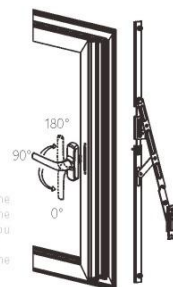

图4
2. 间隙通风状态: 将执手的手柄转到90°位置时打开为间隙通风开启状态; 打开后再将手柄转到180°位置时为间隙通风锁定状态; 此状态下窗扇将无法关闭, 若要关闭, 必须将执手转回90°才能关闭; 图4。
2. Clearance ventilation state: When the handle is turned to the 90° position, then opening the window, its clearance ventilation state is opened; if turning the handle to 180° position, it is the clearance ventilation locking state; Under this situation, the window sash can not be closed. If you want to close the sash, must turn the handle to the 90° position, which is shown in Fig. 4.
二、操作使用(图4):
Operational use(Fig.4)
- 间隙通风状态: 将执手的手柄转到90°位置时打开为间隙通风开启状态; 打开后再将手柄转到180°位置时为间隙通风锁定状态; 此状态下窗扇将无法关闭, 若要关闭, 必须将执手转回90°才能关闭。图4。
- 注意事项: ①适用窗扇宽度不低于400mm; ②适用窗扇高度800mm-1200mm, 窗扇宽、高比例适宜小于1:1.5; ③框、扇间隙控制在11.5 范围内。
2. Clearance ventilation state: When the handle is turned to the 90° position, then opening the window, its clearance ventilation state is opened; if turning the handle to 180° position, it is the clearance ventilation locking state. Under this situation, the window sash can not be closed. If you want to close the sash, must turn the handle to the 90° position, which is shown in Fig.4.